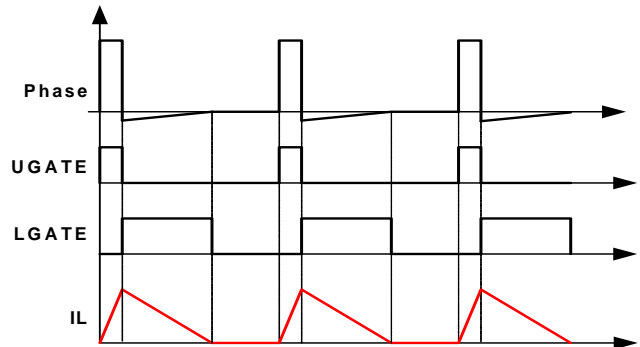

FIGURE 7. DIODE EMULATION
ISL95839 can operate in diode emulation (DE) mode to improve light load efficiency. In DE mode, the low-side MOSFET conducts when the current is flowing from source to drain and doesn't allow reverse current, emulating a diode. As Figure 7 shows, when LGATE is on, the low-side MOSFET carries current, creating negative voltage on the phase node due to the voltage drop across the ON-resistance. The controller monitors the current through monitoring the phase node voltage. It turns off LGATE when the phase node voltage reaches zero to prevent the inductor current from reversing the direction and creating unnecessary power loss.
If the load current is light enough, as Figure 7 shows, the inductor current will reach and stay at zero before the next phase node pulse and the regulator is in discontinuous conduction mode (DCM). If the load current is heavy enough, the inductor current will never reach 0A, and the regulator is in CCM although the controller is in DE mode.